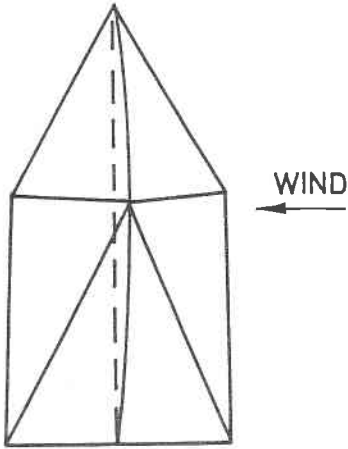
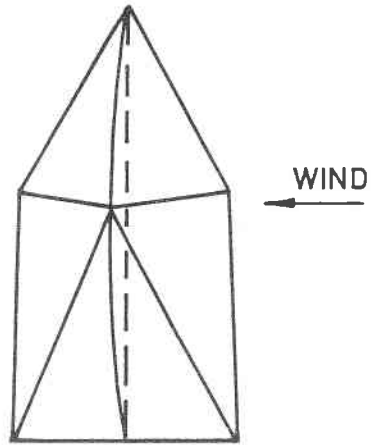

Fig. 8 - Windward
Fig. 9 - Leeward
- 8 Whilst sailing, check the sideways bend. If the mast leans to windward, tighten the cap shrouds (see Fig. 8). If the mast leans to leeward, tighten the aft lower shrouds (see Fig. 9), then check the fore and aft bend. If the mast is bent aft, into the mainsail, tighten the inner forestay.